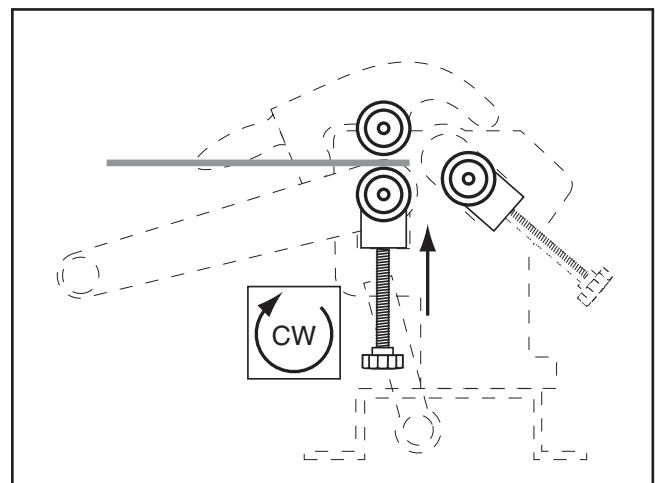

Figure 13. Raising bottom roller for flat rolling.
1. Place the workpiece between the top and bottom rollers, as shown in **Figure 13**. Turn the thickness adjust knobs to lift the bottom roller until the workpiece is held snug between the top and bottom rollers. Be sure to turn the thickness adjust knobs on both ends of the roller equal amounts.